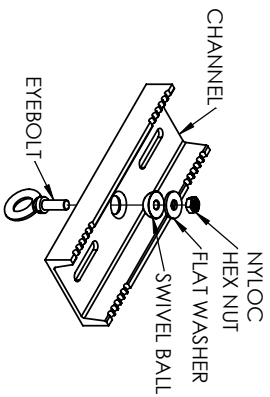

FIGURE 1
- ASSEMBLE THE EYEBOLT, SWIVEL BALL, FLAT WASHER AND HEX NUT INSIDE THE CHANNEL'S CENTER HOLE. MAKE SURE TO LEAVE A GAP OF 1/2" BETWEEN THE EYEBOLT AND THE SWIVEL BALL (FIGURE 1)